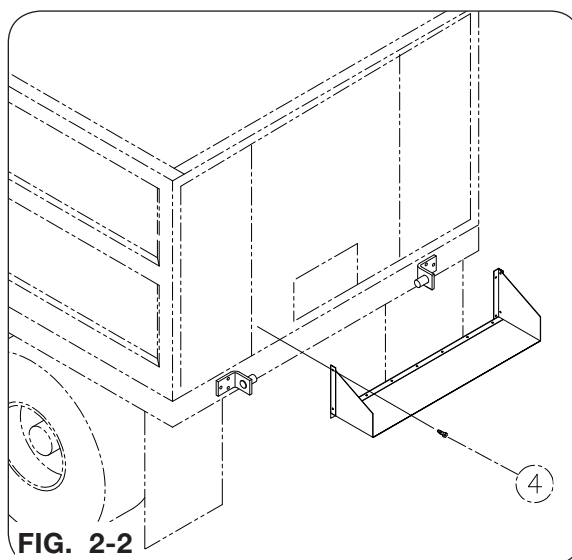

FIG. 2-2
4. Install hopper seal to the back of the truck centered around gate. Secure with five self-drilling screws (FIG. 2-2).